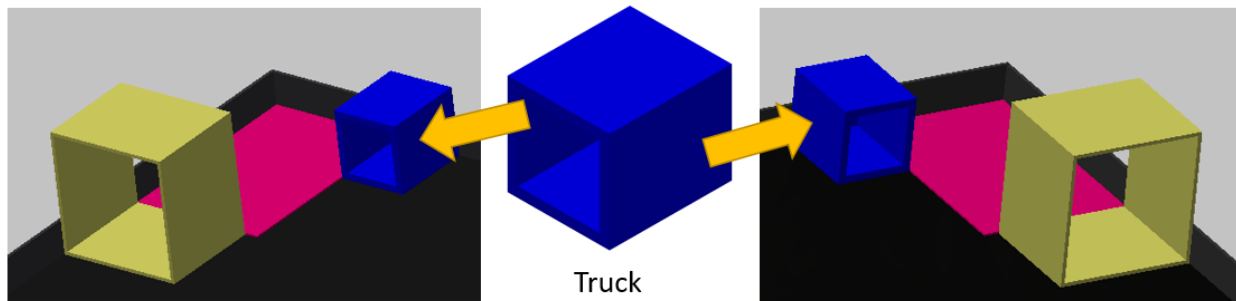

Figure 6: View of the truck shipping zone
**Truck Shipping Zone** is shown in Figure 6.